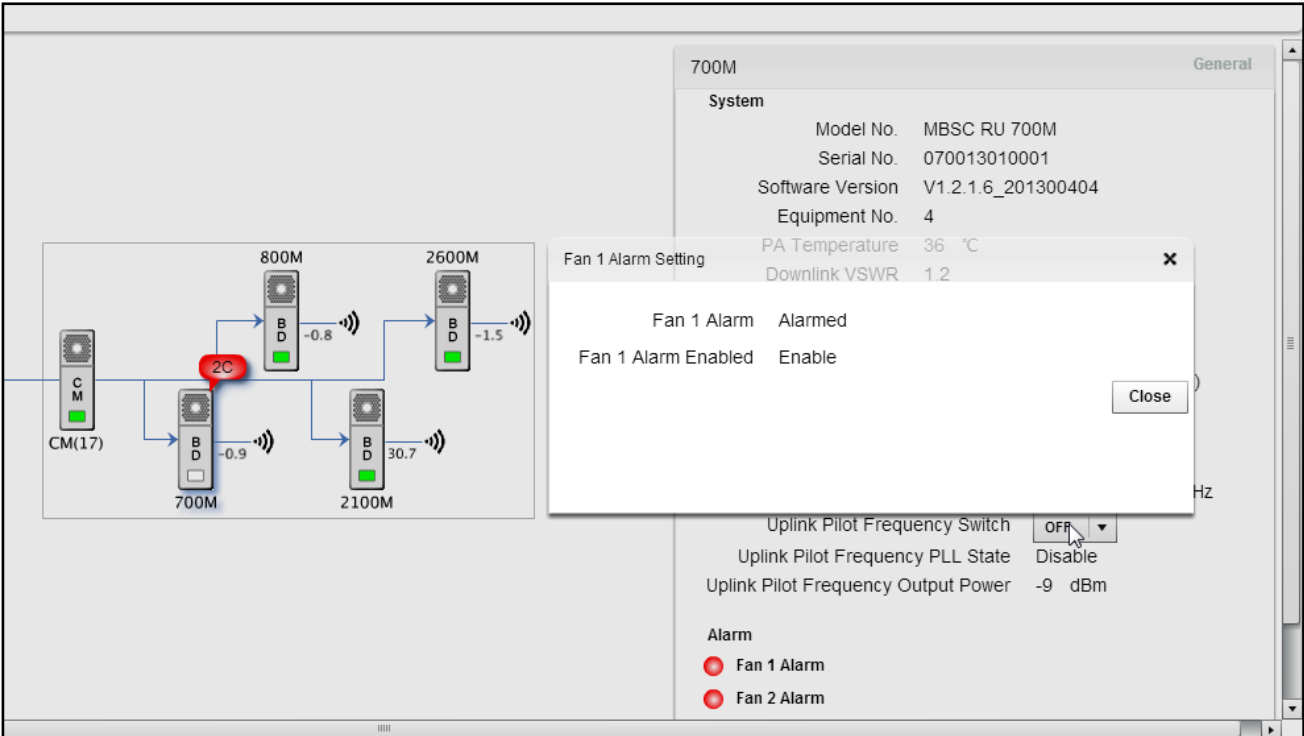

Figure 51 - Remote Node Alarm Status
- 1. Click on the RU in the topology diagram and the component window will pop up on the right as shown in Figure 51 - RU Attenuator.
1. Click on the RU in the topology diagram and the component window will pop up on the right as shown in Figure 51 - RU Attenuator.